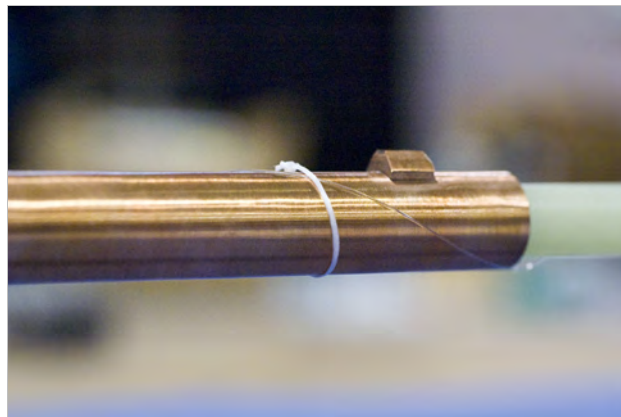

FIGURE 5-20 *Tie the optical fiber to the arm*
13. Using unwaxed dental floss, tie the fiber to the arm to keep it from unraveling during use (FIGURE 5-20).